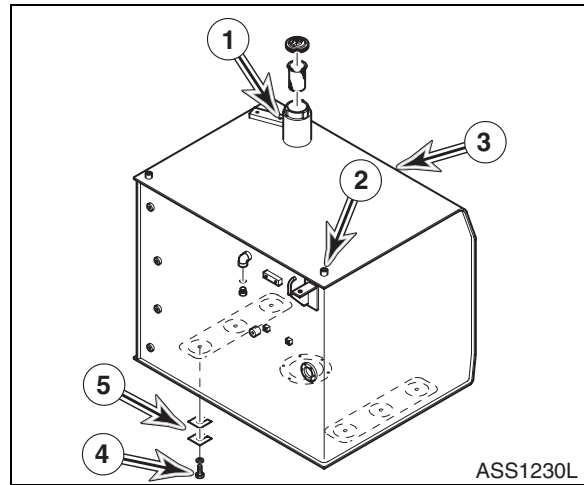

Figure 11
1. Install two 12 mm eye bolts in threaded holes (1 and 2, Figure 11). Using a suitable lifting device, sling eye bolts.
2. Set fuel tank (3, Figure 11) into position. Install six bolts and washers (4) finger tight, to secure tank to frame.
3. Install shims (5, Figure 11) as needed to prevent tank (3) from rocking or stress from mounting bolts (4).
4. Tighten mounting bolts (4, Figure 11) after shims are installed.